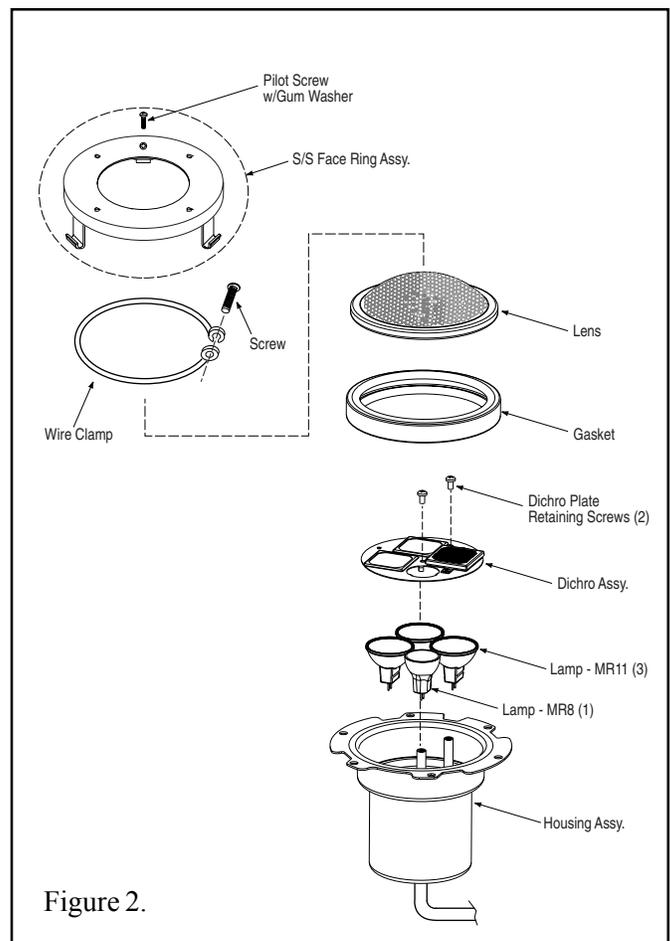

Figure 2.
## Section V. Replacing Lamps (see Figure 2)
- D. Disassemble the light fixture and remove lamps. See Figure 2.
- E. Install the new lamps. See Figure 2.